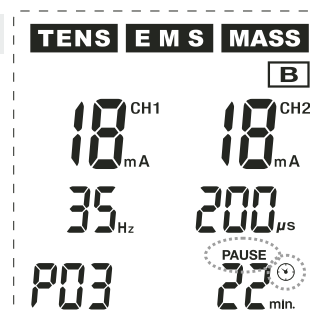

Fig. 17
Pause mode: If you wish to pause during the application, you can press the key ⑥ (P/II) in the operating mode in order to access the pause mode. The pulse output is interrupted and the yellow indicator lights ① for channel 1 (CH1) and/or ② for channel 2 (CH2) go out. On the display, the **PAUSE** symbol above and the symbol (⏸) next to the minute information (see Fig. 17) will flash. In order to continue the application, press the key ⑥ (P/II) again and the device will return to the operating mode and resume the application.